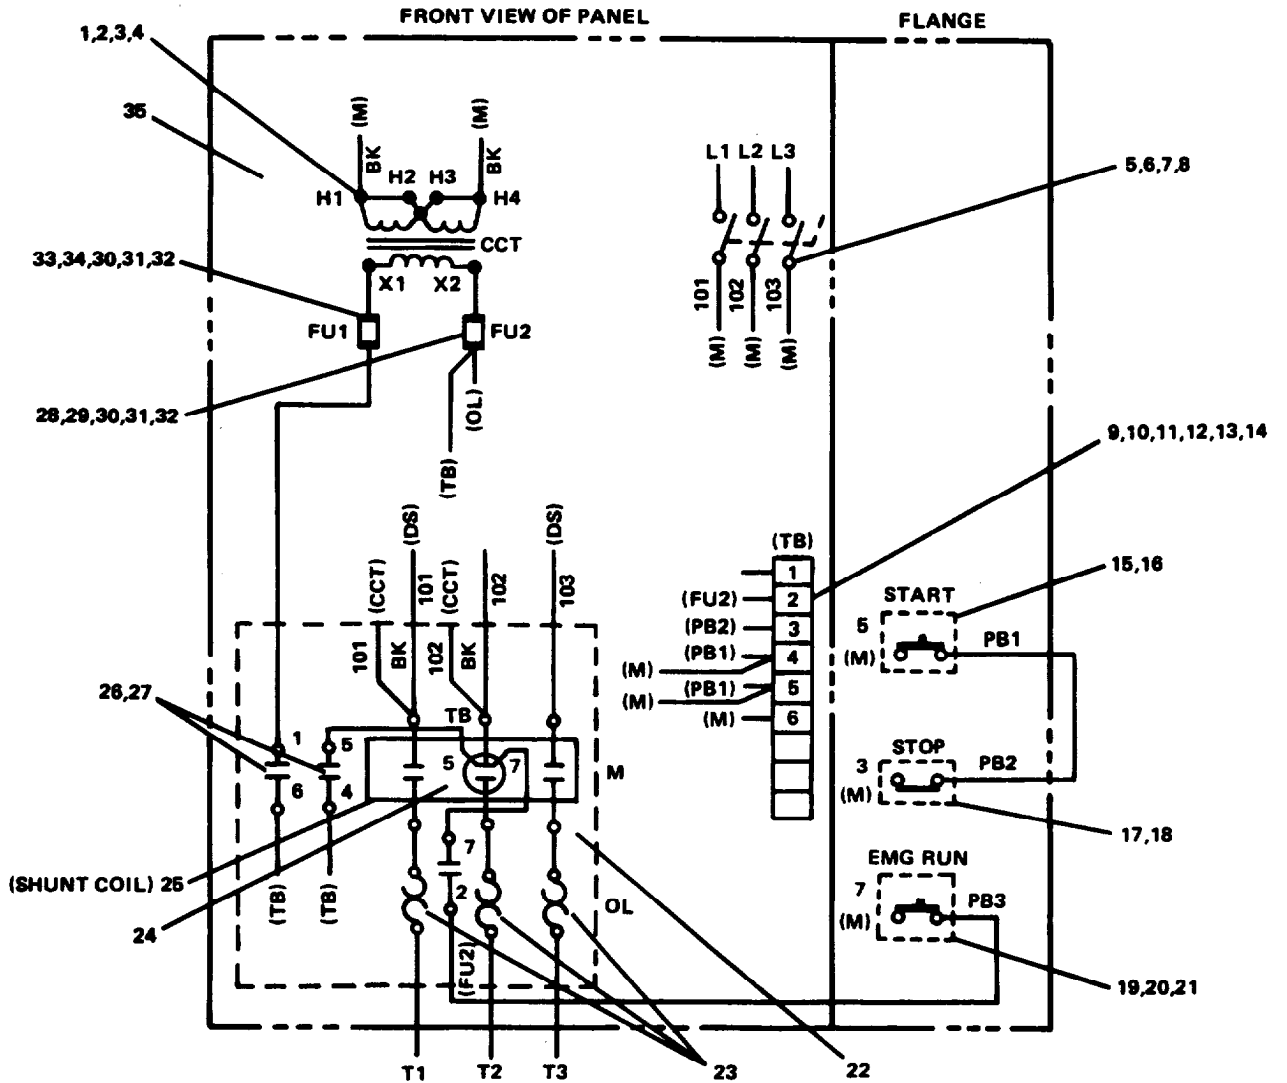

FIGURE 2-205. Motor Controller, Stern Windlass Repair.
- g. Position switch handle assembly (12) on front panel flange.
- h. Engage switch handle with trip bar (7) on rotary switch (6).
- i. Install two machine screws (11), lockwashers (10) and plain hex nuts (9) and secure switch handle assembly (12) to front panel flange.
- j. Close door (2).
- k. Secure door to motor controller with two latch screws (1).
**2-262. Repair Motor Controller, Stern Windlass. (FIGURE 2-205)**